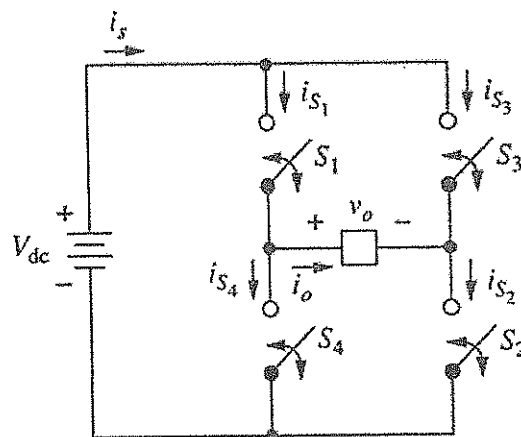

Figure 2
- b. A square-wave inverter as shown in Figure 2 has an RL load with $R = 15 \Omega$ and $L = 10\text{mH}$. The inverter output frequency is 400Hz.